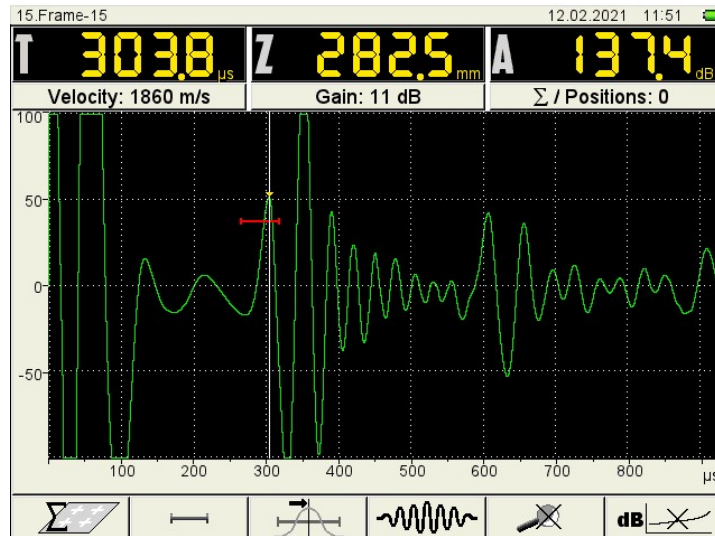

Figure 6: The A1221 ANCHOR calibration
- Set view parameters to receive the following view (see Figure 6). The gate (red line) must catch the amplitude of the first positive oscillation.